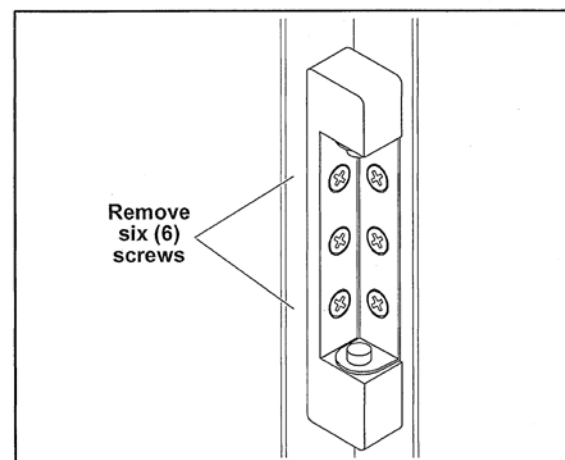

Fig. 21
2. Remove the three (3) phillips head screws that attach the hinge to the door. Remove six (6) phillips head screws to replace hinge. (Fig. 21)